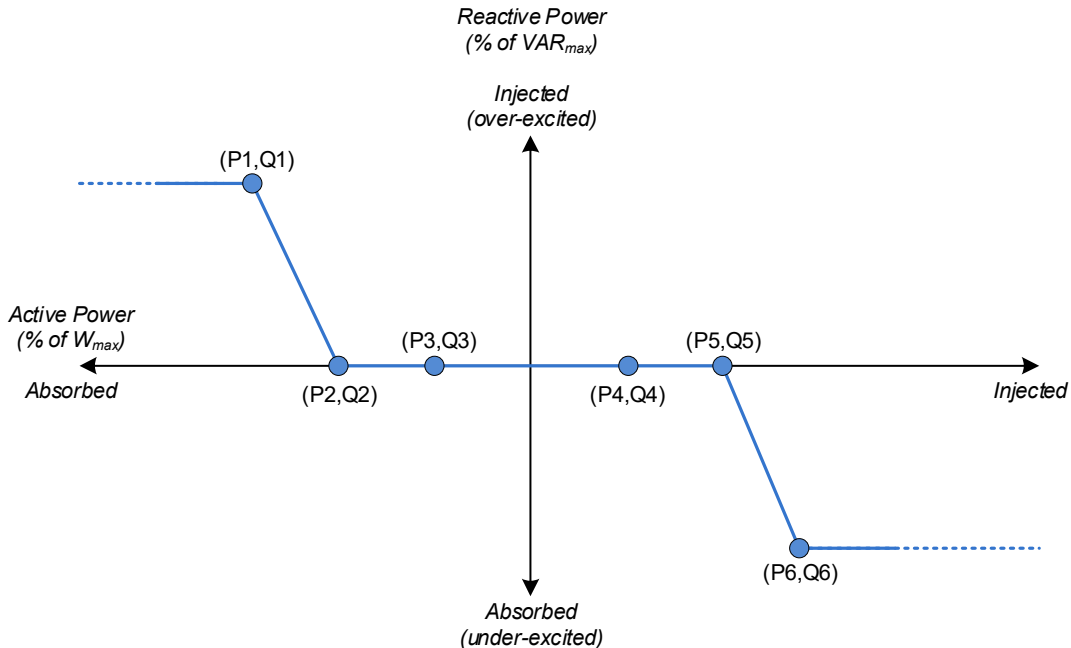

Figure 26 - Watt/VAR Configuration
Figure 26 illustrates a basic Watt-VAR curve. At the endpoints, to the left of the first active power point and to the right of the last active power point, the reactive power level remains constant (i.e. flat lines). The active power points (P) are defined as a percentage of the maximum active power (W_{max} , **REG 40266**). By default, the reactive power points (Q) are defined as a percentage of the maximum reactive power (VAR_{max} , **REG 40272**). However, the scaling can be changed to be a percentage of the maximum active power (W_{max} , **REG 40266**) or the maximum apparent power (VA_{max} , **REG 40271**) using the *VAR Dependent Reference* register in the Watt-VAR curve settings. When the Watt-VAR curve is enabled (**REG 41630**), the PCS’s active power output is used to determine the reactive power output specified by this curve. When the result is a non-zero reactive power command, the **Watt-VAR Active** warning bit will be asserted in **REG 41756 – PCS Warnings**.